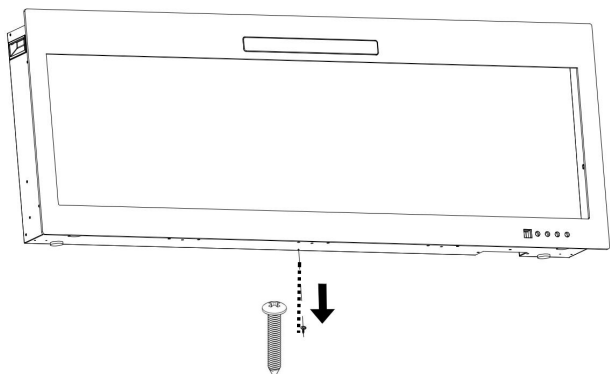

Fig 4-1
A. Remove the silver screw at the bottom of the appliance. (Fig 4-1). Set the screw aside.